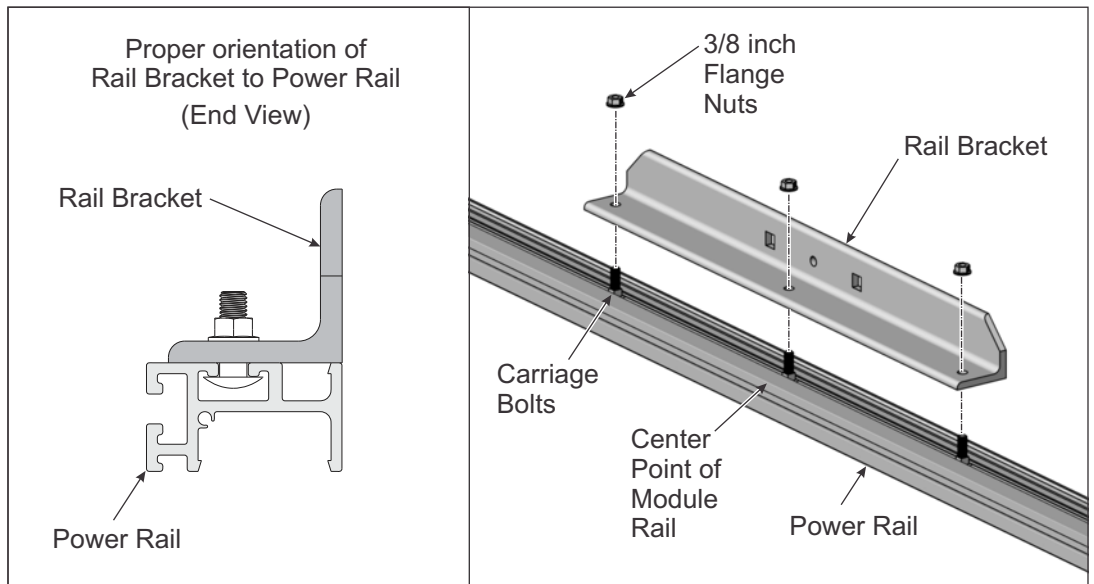

Figure 3-2: Installing Rail Bracket
- C. Align the center of the Rail Bracket to the center mark on the Power Rail and the three carriage bolts. Secure with flange nuts. **Torque to 14-16 ft-lbs** (See Figure 3-2)